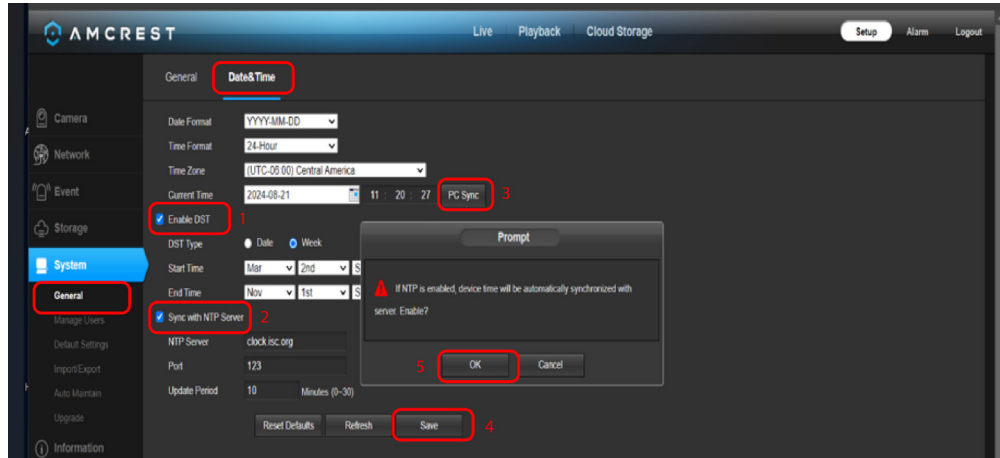

Fig. 2.9
7. Go to System>General>Date/Time (Fig. 2.9). Date and Time may need to be configured.
- Check the Enable DST box (1), if applicable for your location.
- Check the Sync with NTP Server box (2).
- Click/Tap on the PC Sync button (3).
- Save your selection (4).
- When the prompt appears, click/tap OK (5).